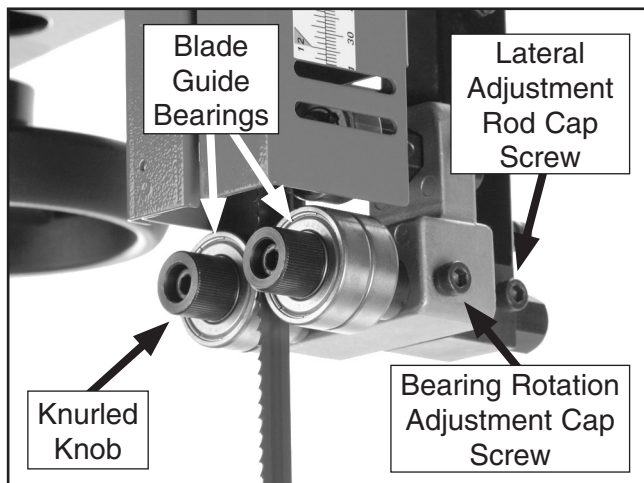

Figure 22. Blade guide controls.
3. Familiarize yourself with the upper blade guide controls shown in **Figure 22**.